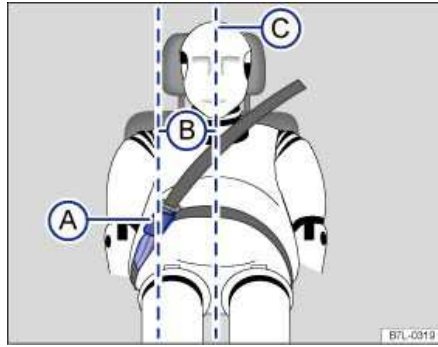

Fig. 66 Positioning of the safety belt extender.
Key to fig. 66:
- Never use a safety belt extender if the distance (B) between the front edge of the safety belt extender buckle (A) and the centerline of the person using the safety belt extender ⇒ fig. 66 \(C\) is less than 6 inches (15 cm).